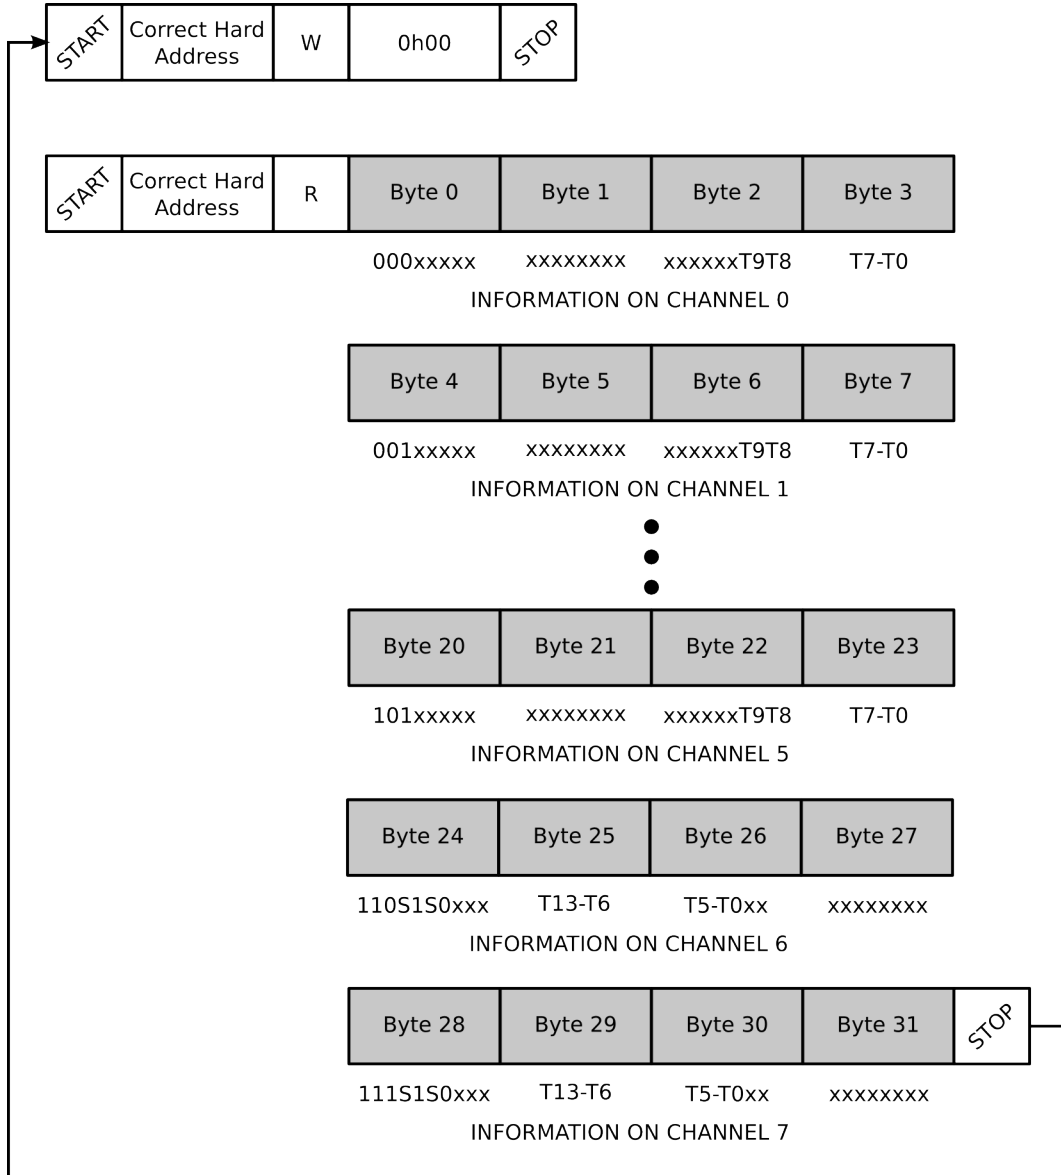

Figure 5: I2C flow for reading temperature data from the pSIF2 ASIC.
In order to read the data from the I2C the user shall do the following steps as shown in Fig. 5.
- (c) The sequence described here is the one depicted in Fig. 5.